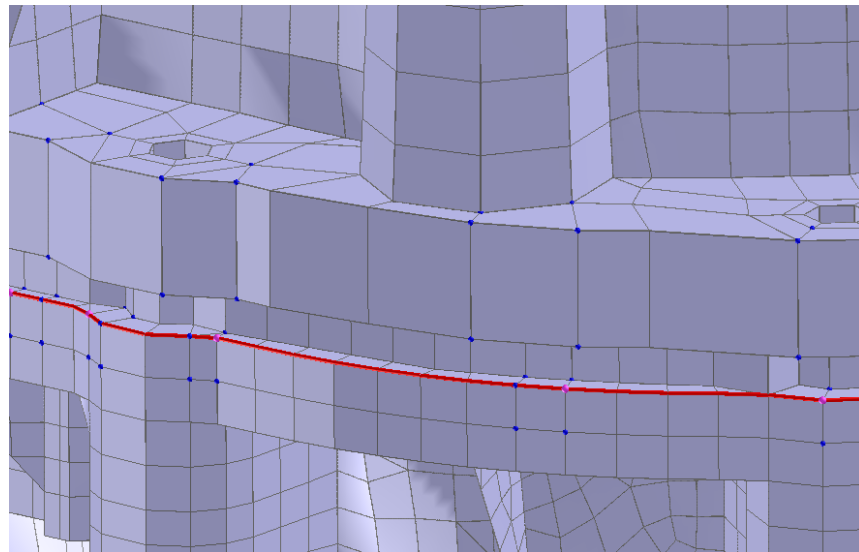

Figure 5.44 Seam 1.
- Choose the nodes in the path of the seam to be created. To select a node: Left-click on the node with the *shift-key* held down. Note: You should only select nodes on the corners of the elements, not mid-side nodes. Once three or more nodes are selected the seam connecting these nodes is drawn if *Coustyx* finds a valid path. Seams are constructed based on the shortest path identified by *Coustyx* while connecting all the selected nodes. See Figure 5.44.